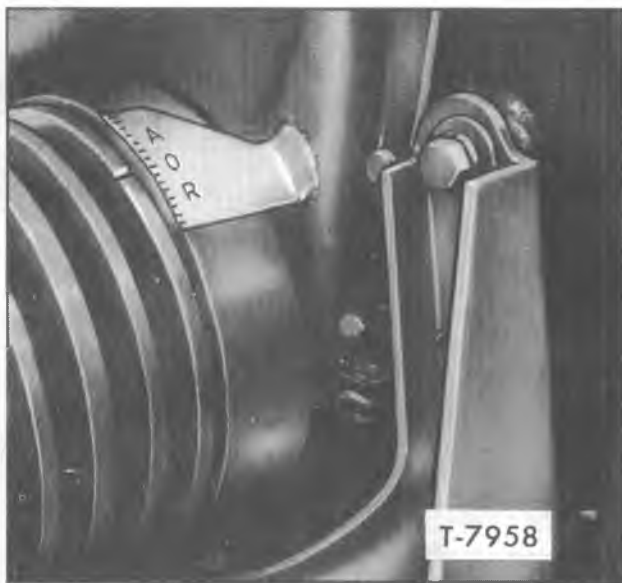

Figure 46—Ignition Timing Marks at Front of Engine (Typical)
2. Turn crankshaft so timing mark is at the "O" mark on pointer and number 1 cylinder is ready to fire (fig. 46). At this point when moving crankshaft, the exhaust valve in number 6 cylinder will have just closed and intake valve will just begin to open. If this condition exists the valves are in time. If the exhaust valve or intake valve is open when the pointer is at the timing mark (fig. 46) the camshaft is out time.
NOTE: When the number 6 cylinder is ready to fire and the pointer is at the timing mark (fig. 46) the number 1 cylinder exhaust valve will have just closed and the intake valve will begin to open.